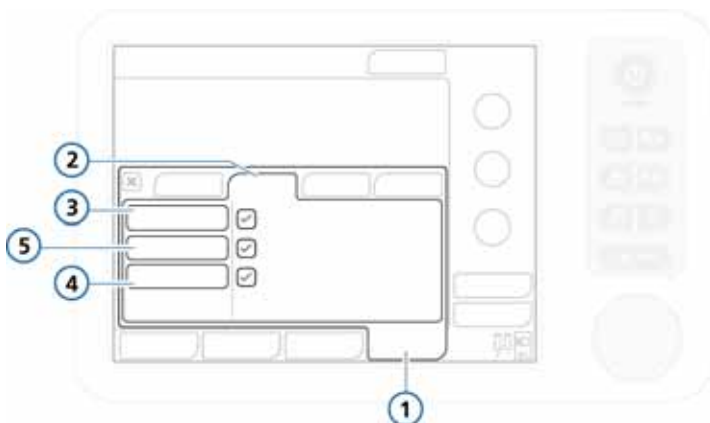

Figure 4-2. Tests & calib window
2. Activate **Tightness test** from the **Tests & calib** window (Figure 4-2).
2. Activate **Flow Sensor** from the **Tests & calib** window (Figure 4-2).